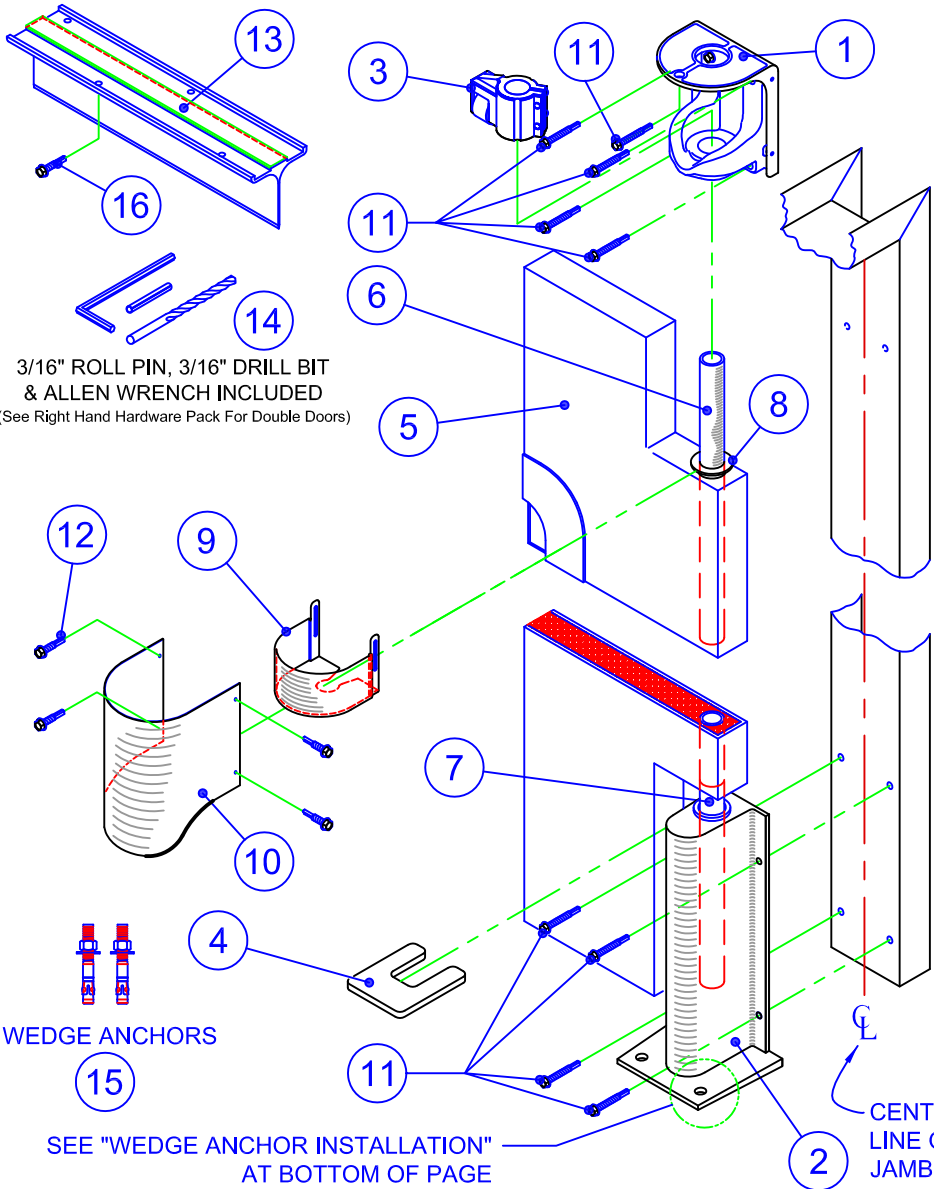
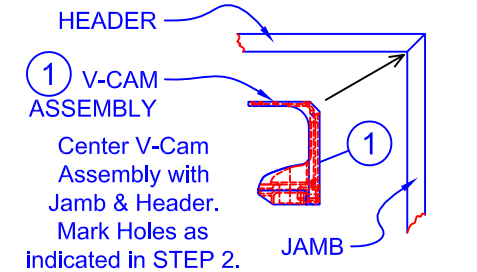

Figure 1
Figure 3
Place the Lower Hinge Guard (2) into the lower corner of Jamb/Floor, see Figure 2. Center the Lower Hinge Guard with the Jamb as shown in Figure 1, and mark holes on Jamb with pencil or center punch. Place the V-Cam Assembly (1) in the upper corner of Jamb/Header as shown in Figure 3. Center the V-Cam Assembly with the Jamb/Header and mark holes with pencil or center punch. Drill the marked holes on Jamb and Header with appropriate size drill bit, see "Drill Bit Sizes" at left. NOTE: Header Screw is Optional!
Remove the Roller Assembly (3) from the Upper Hinge Post (6), **DO NOT REMOVE THE BUSHING** (8). Place the V-Cam Assembly (1) over the Upper Hinge Post (6). Slide the Roller Assembly (3) onto the Upper Hinge Post above the inside flat of the V-Cam oriented with the bearing wheel facing down (see Figures 1 & 4). **NOTE: Do Not Tighten Cap Screws on the Roller Assembly at This Time.**
Lift the door panel up and slide the Lower Hinge Post (7) into the top hole of the Lower Hinge Guard (2), see Figure 1. Place the completed door assembly into the jamb and line up with the pilot holes drilled in Step 3. It may be necessary to slide the V-Cam and Roller Assemblies down on the hinge post to fit the entire panel assembly into the jamb. Once inside the jamb you can lift the V-Cam and Roller Assemblies to the upper corner as indicated by the Arrow in Figures 3 & 4. Insert four 1 7/8" Tek Screws (11) into the V-Cam Holes at the Jamb and tighten securly (The fifth Tek Screw at the Header is Optional). Insert four 1 7/8" Tek Screws (11) into the Lower Hinge Guard (2) mounting holes and tighten securely.
Lift the door panel and place the Door Adjusting Shim (4) between the Lower Hinge Guard (2) and the lower hinge cutout on the door panel, see Figure 1. **IMPORTANT: Do Not Allow Door Adjuster Shim To Rest On The Bushing!** Set the Roller Bearing to the Lowest point on the V-Cam (closed position), see Figure 5. Line up the centerline of the panel (5) with the centerline of the header and tighten the TOP Cap Screw on the Roller Assembly (3) securely, see Figure 6. Lift door high enough to gain access to the Lower Cap Screw on the Roller Assembly (3), see Figure 6. Tighten the Lower Cap Screw securely.
Locate the Hinge Seal Wrap (10). Hold the Hinge Seal Wrap (10) with the straight edge toward the header as shown in Figures 1 & 7-A. Place one side of the Hinge Seal Wrap at the back edge of the V-Cam Assembly (1) and line up the mounting holes in the Hinge Seal Wrap with the two mounting holes on the back of the V-Cam Assembly. Insert two of the #10 x 1/2" TEK Screws (12) through the holes in the Hinge Seal Wrap and into the V-Cam Assembly. **DO NOT COMPLETELY TIGHTEN THE SCREWS AT THIS TIME!**